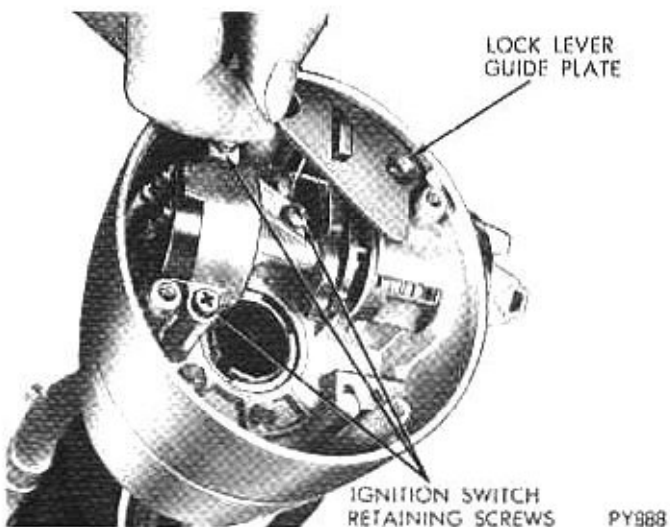

Fig. 11—Lock Lever Guide Plate
(3) Remove two retaining screws and the lock lever guide plate which will expose the lock cylinder release hole (Fig. 11).
screws (Fig. 11).